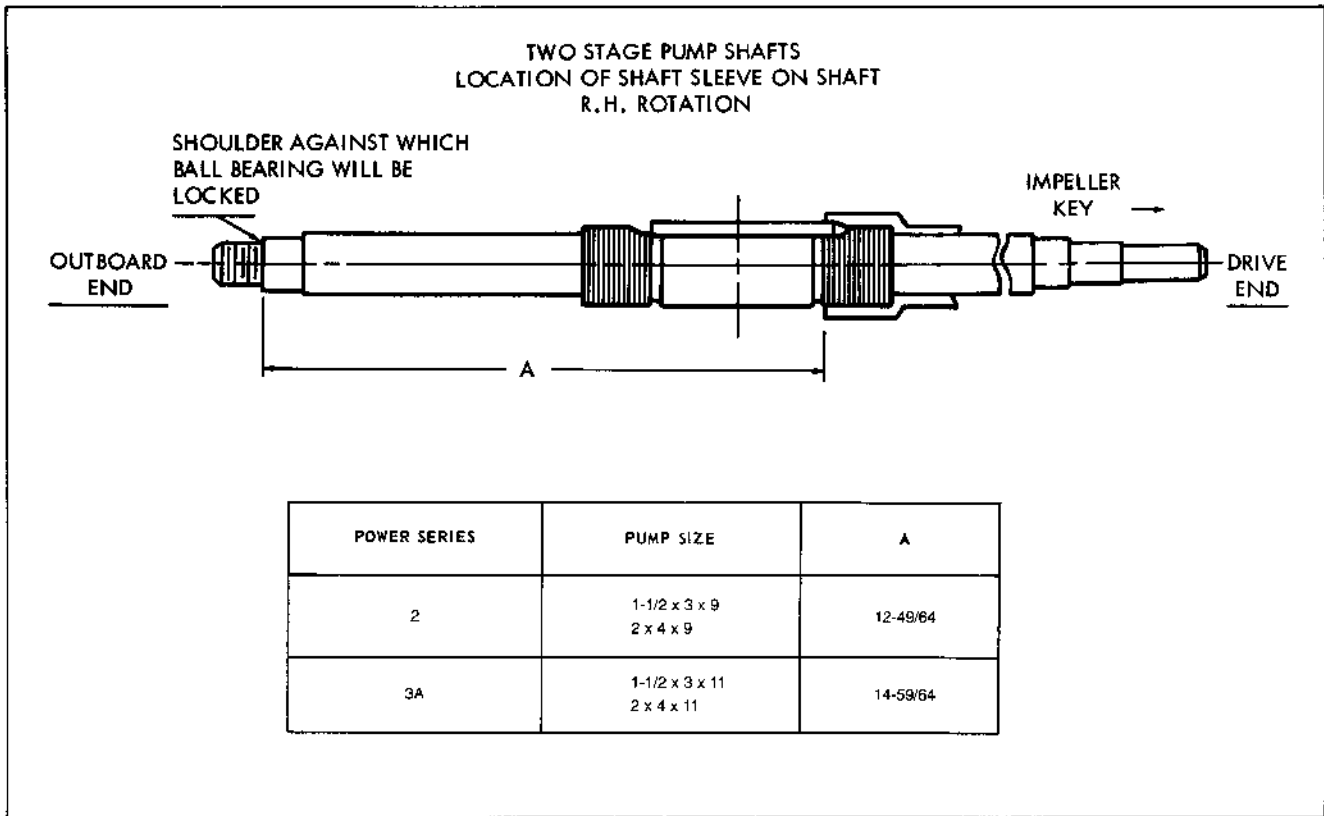

Figure 2
2. On a right hand unit, thread inboard sleeve (65) onto shaft (71) distance "A" (refer to Figure 2). On a left hand unit, thread outboard sleeve (57) onto shaft distance "A" (refer to Figure 3). When the sleeve is in position, its keyway should align with keyway on shaft. Coat key and keyway with Loctite Sealant Grade 242. Insert key (68) into keyways of shaft and sleeve. Tap key firmly in place.